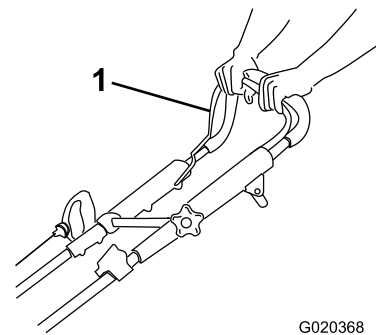

Figure 17
1. Hold the blade control bar (Figure 17) against the handle.